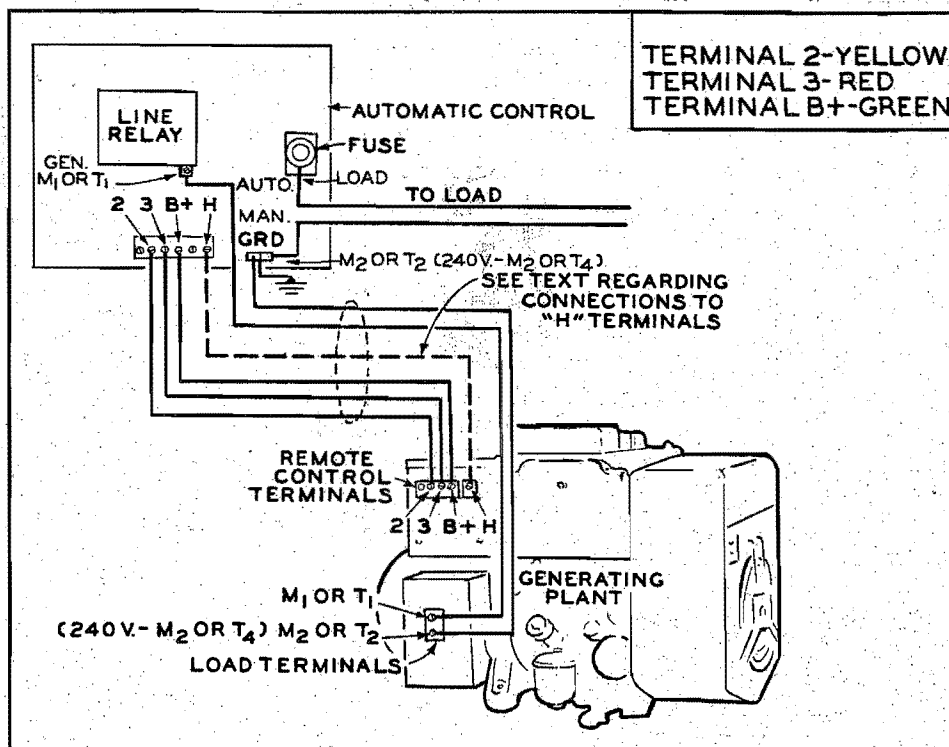
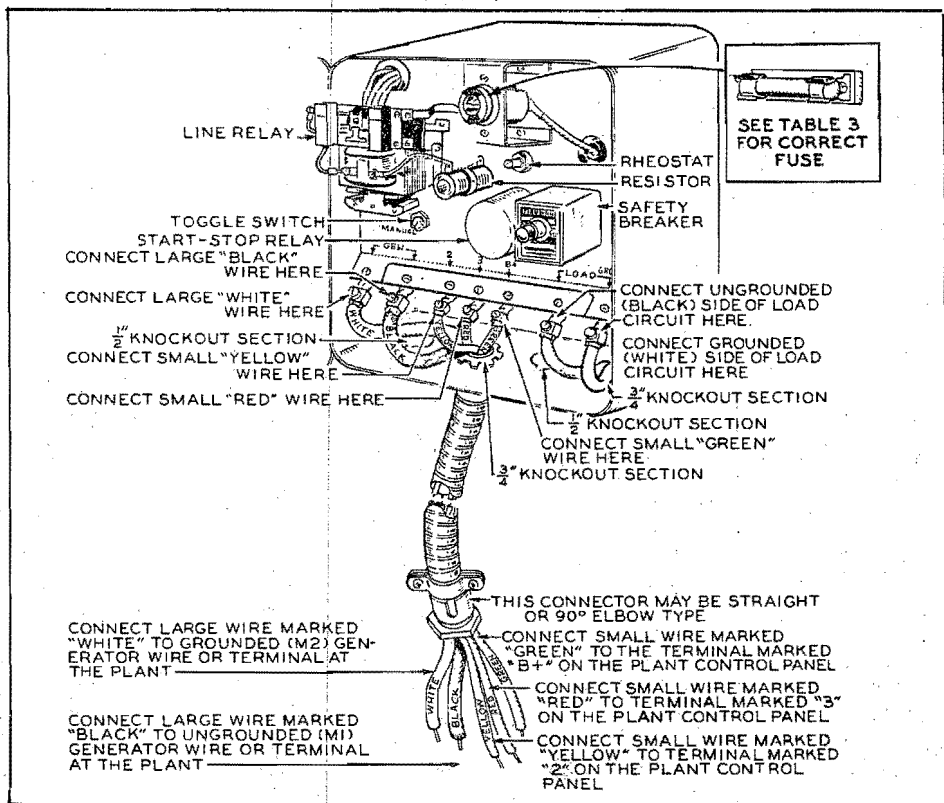

FIG 3 - WIRING PLANT, LOAD, AND CONTROL
FIG 4 - AUTOMATIC CONTROL PICTORIAL VIEW AND WIRING INSTRUCTIONS (models prior to Spec D)
illustrated in Fig. 4)
1. **Control Wires between Plant and Control.** If using other than the furnished wire, use #16 wire for the control. Connect 3 control wires (small conductors in cable) between the remote control terminal block in the generating plant control box and the automatic control terminal block. Follow the color code (Fig 3 for models beginning Spec D; Fig 4 for Spec A, B, and C models), connecting each wire to the same number terminal at each end.